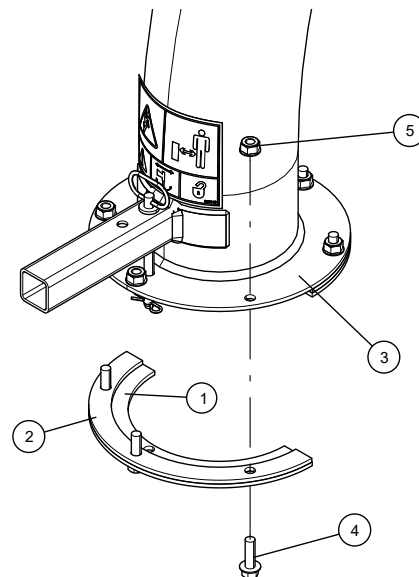

Figure 2.4.3, Attach Discharge Tube
6. Install the second half of the spacer (2) and clamp ring (1) on the discharge tube with 3/8 × 1-1/4" bolts (4) and nylock nuts (5). (See Figure 2.4.3)